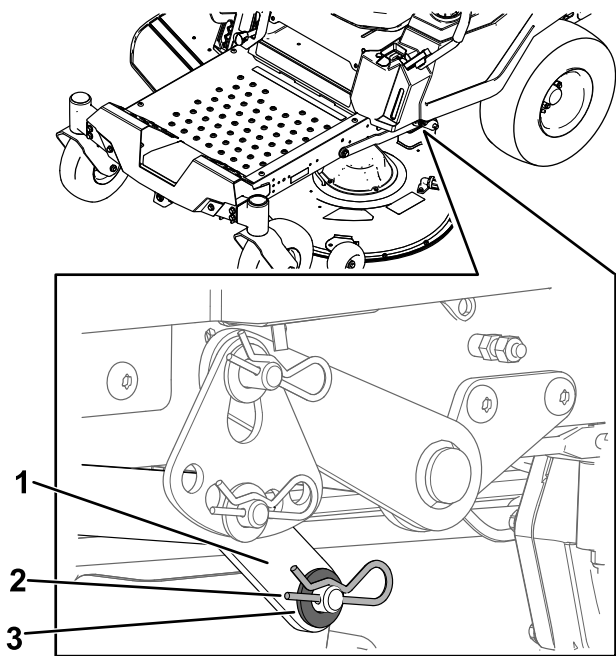

Figure 66
6. On 1 side of the machine, remove the washer and hairpin cotter from the deck pin (Figure 66).
7. Remove the lift arm from the deck pin (Figure 66).
5. On 1 side of the machine, lift the rear of the mower deck and install the lift arm to the deck pin (Figure 66).
6. Install the lift arm using the washer and hairpin cotter (Figure 66).